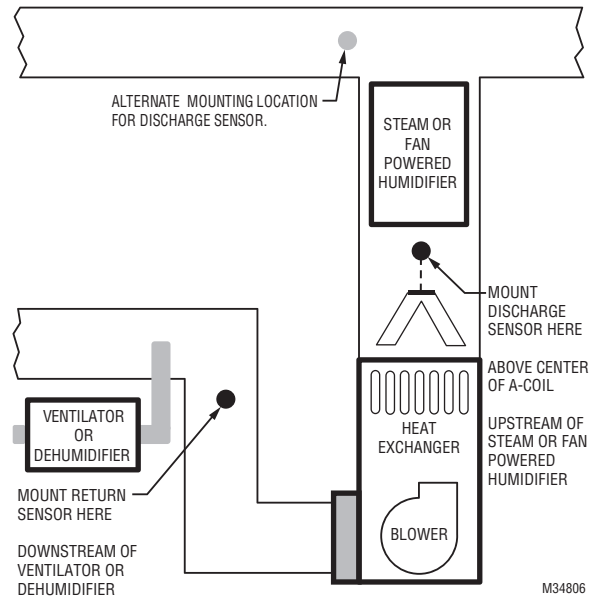

Fig. 9.
2. When possible, mount the Discharge Air Temperature Sensor upstream of a Steam Humidifier or a Dehumidifier that is ducted to the supply. See Fig. 9–10.
3. If space does not allow a Discharge Air Temperature Sensor upstream of a Steam Humidifier or Fan Powered Humidifier, mount the Discharge Air Temperature Sensor downstream of the Humidifier. See Fig. 9.